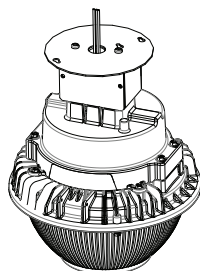

Figure 3
5. Reattach the cover plate using the original screws. (figure 3).